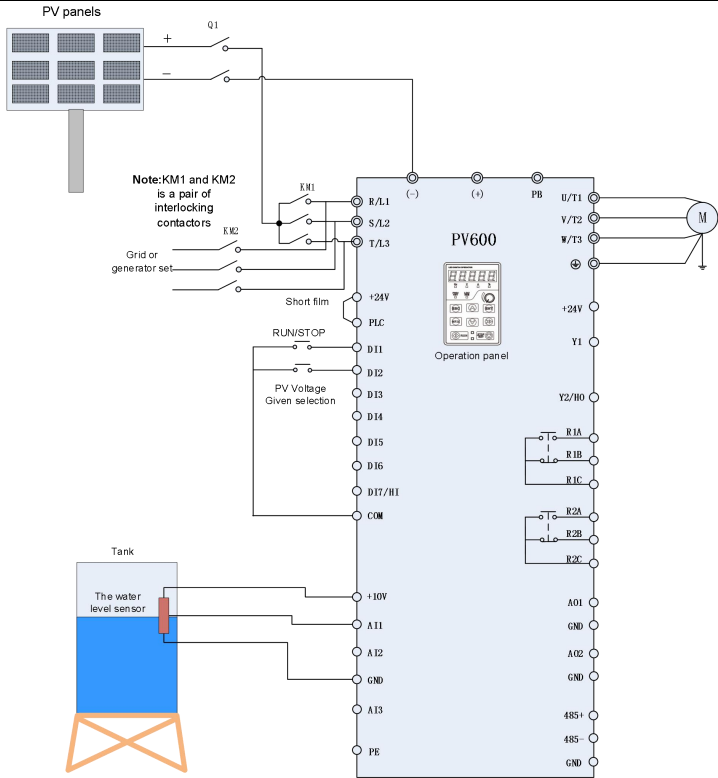

Figure 2-4 Grid or Generator Power Supply Wiring Diagram 2
Wire drawings of below inverters shown as Figure 2-4: PV600 series 3phase 690V inverters with power higher than 45kw.
2. Disconnect the switch Q1, and then close Q2, switch to grid or diesel engine power; disconnect Q2, and then close Q1, switch to PV power supply; Figure 2-4 show inter-locking connection between connector KM1 and KM2, KM1 close is PV power supply, KM2 close is grid or generator power supply.